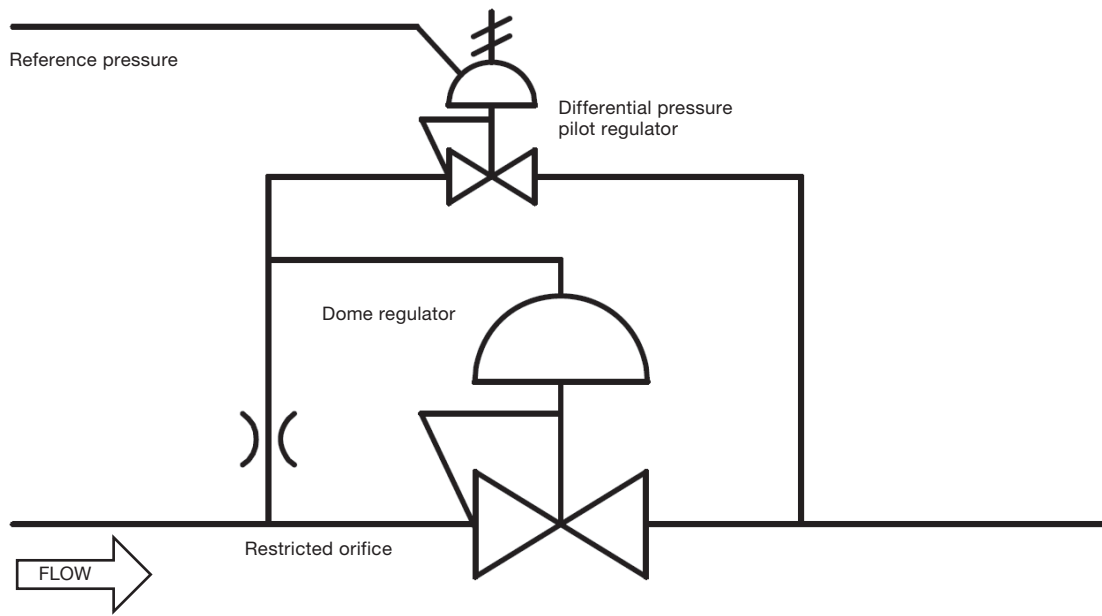

Figure 3
- **Differential pressure pilot control.** In this setup a reference pressure line can be connected to the integral pilot regulator (Figure 3). The pilot regulator can then be adjusted to set a bias pressure. The main regulator will then have a set pressure equal to the reference pressure plus the bias pressure.